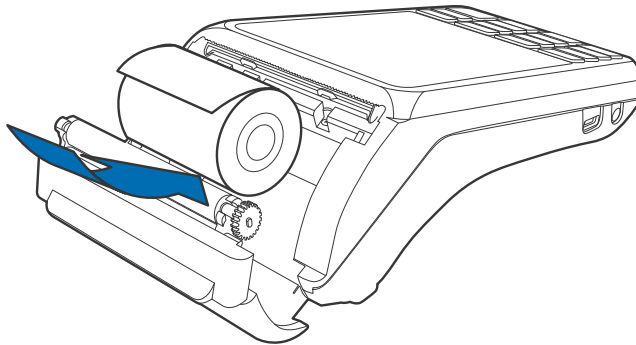

Figure 14 Loading Paper Roll
- 2 Load the paper roll as shown in Figure 14, with the edge of the paper on the top of the roll.